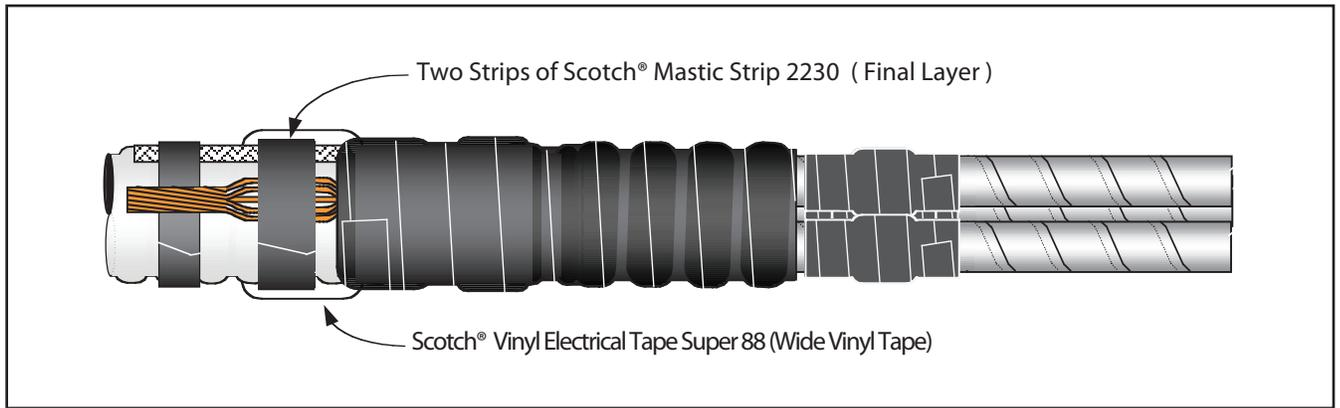

Figure 11
- 2.14 Wrap two additional strips of Scotch® Mastic Strip 2230 directly over previously applied mastic. (*Figure 11*).